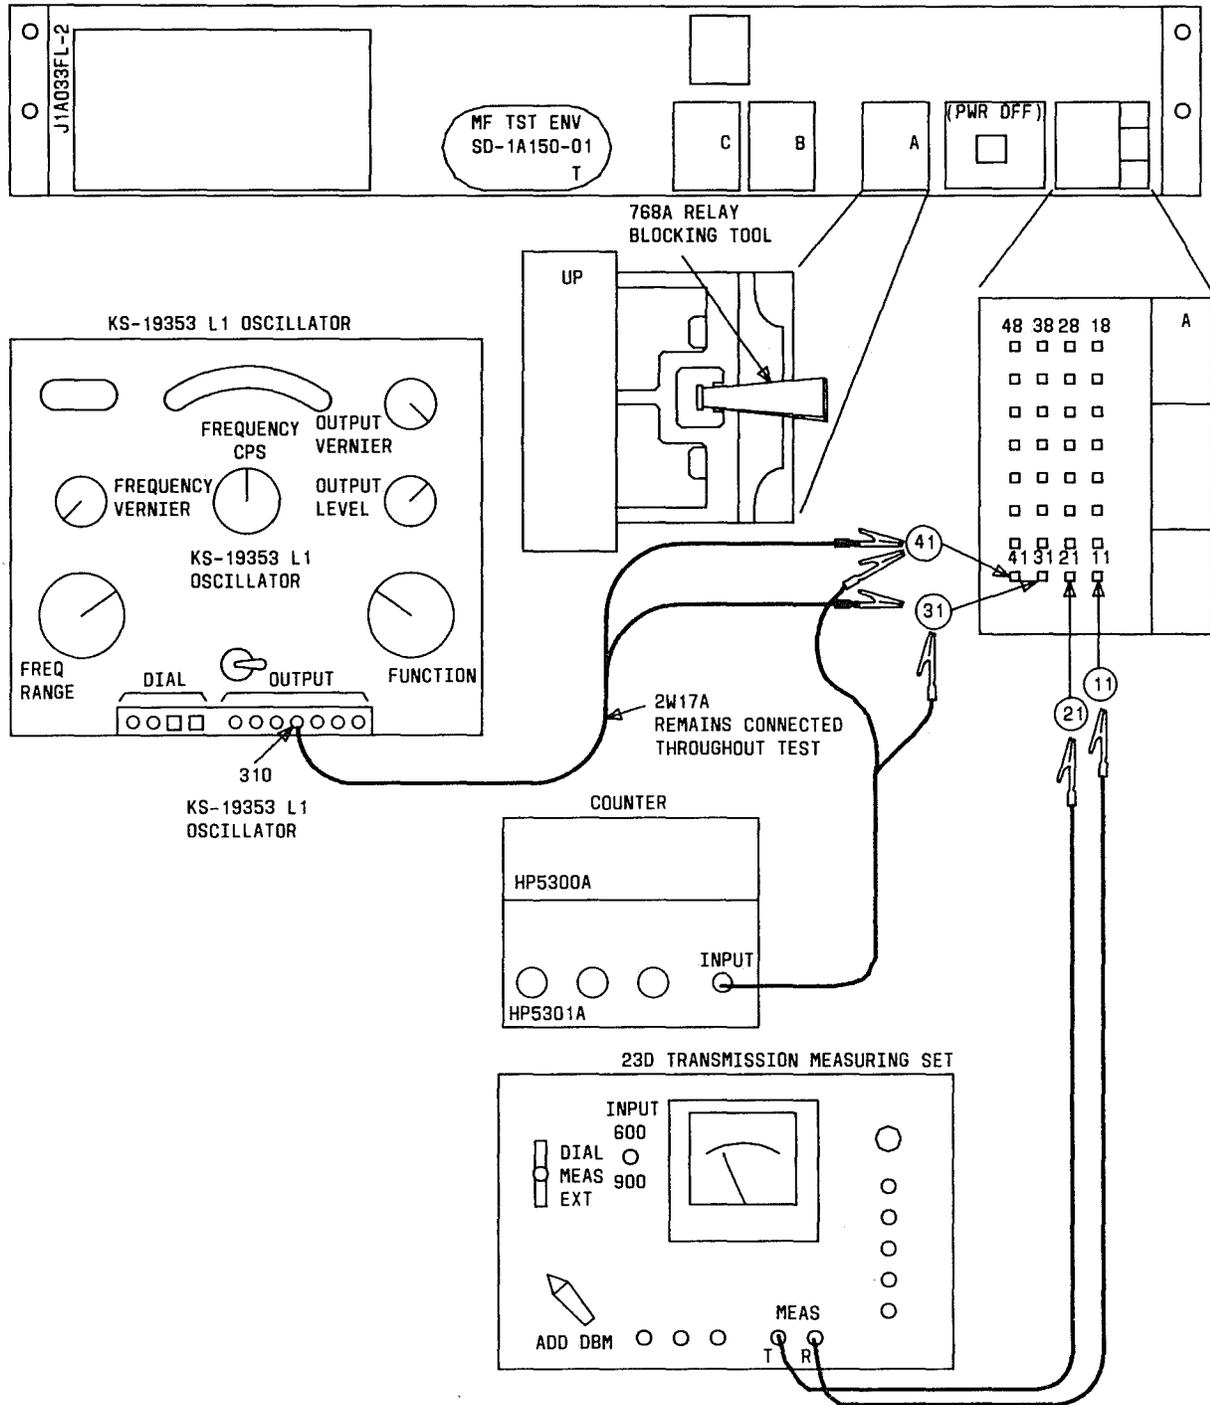

Fig. 13 — Test Setup
60. Remove all test connections (Fig. 13)